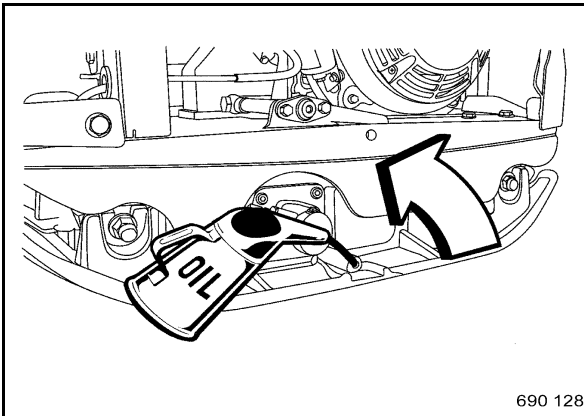

Fig. 58
- Tilt the machine to the opposite side and secure it properly (Fig. 58).